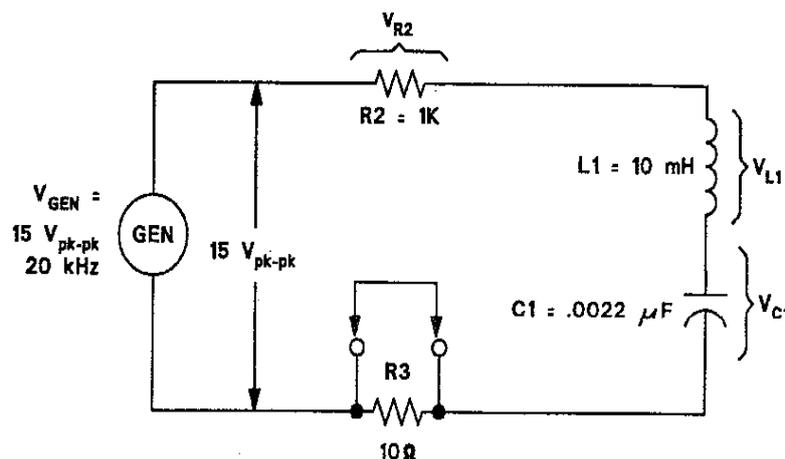

Figure 1 Series RLC Circuit
2. Locate the RLC/RESONANCE/POWER circuit block. Connect the circuit shown in Figure 1.